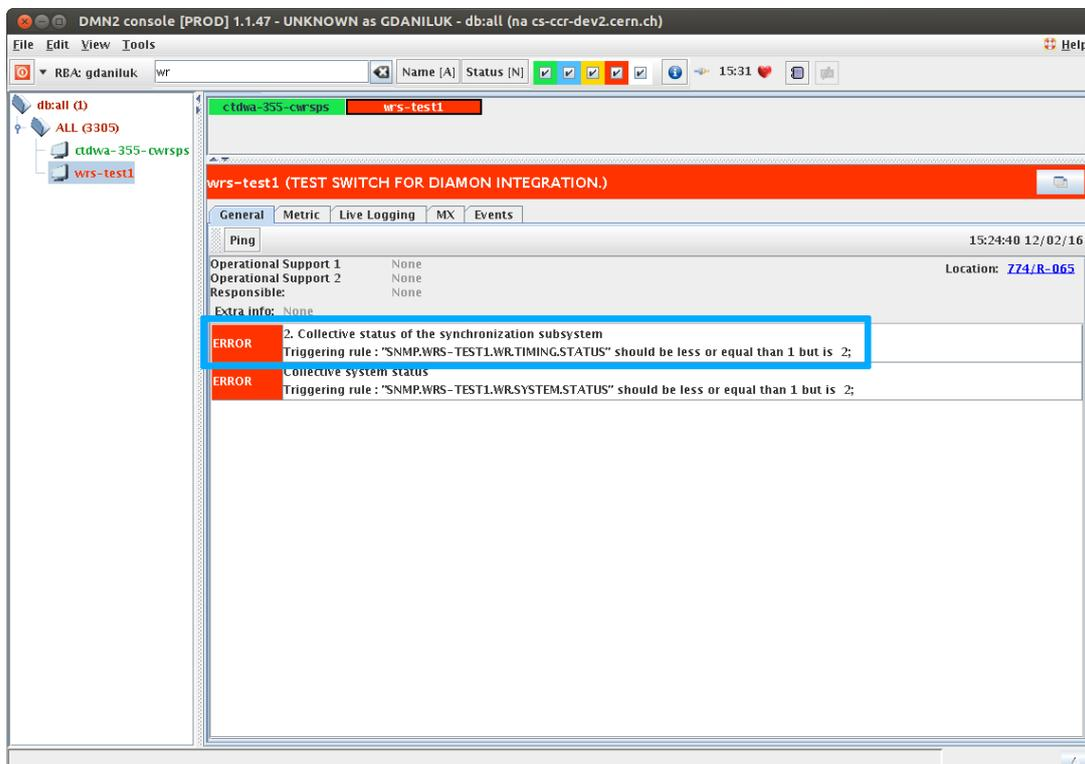

Figure 3: WR Switch has problem with the synchronization subsystem
2. By checking the general status objects (`glshyperlinkWR-SWITCH-MIB::wrsOSStatus`, `wrsTimingStatus`, `wrsNetworkingStatus`) one can realize that the problem is reported by the synchronization subsystem. The value of `wrsTimingStatus` is `2=error` (fig.3).